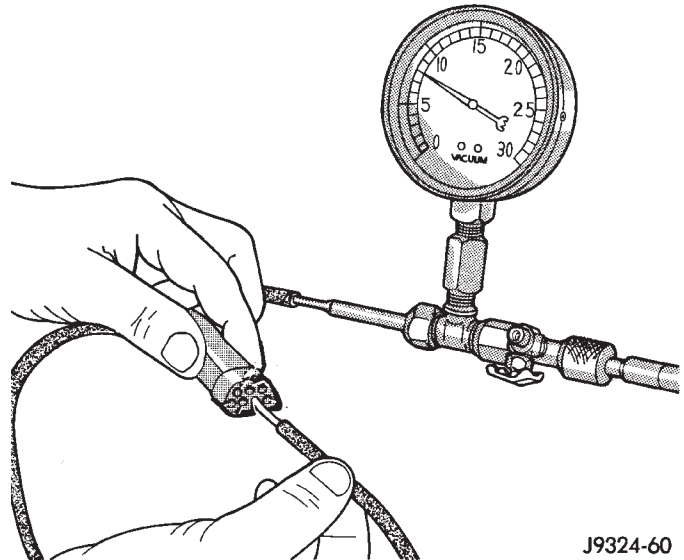

Fig. 11 Vacuum Circuit Test
(1) Disconnect the vacuum connector from the back of the heater-A/C mode control switch on the control panel.
(2) Connect the test set vacuum hose probe to each port in the vacuum harness connector, one at a time, and pause after each connection (Fig. 11). The test set gauge should return to the 27 kPa (8 in. Hg.) setting shortly after each connection is made. If OK, replace the faulty mode control switch. If not OK, go to Step 3.